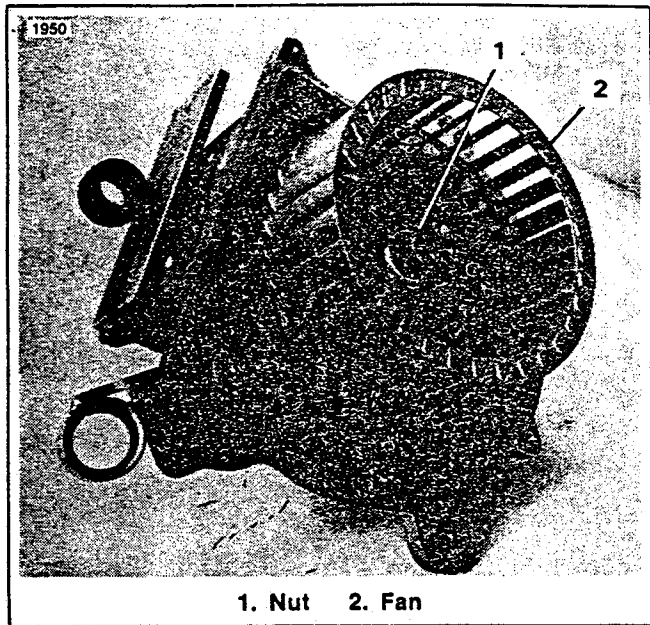

Figure 5-16. Removing Fan Nut
6. See Figure 5-16. Place the CONNECTING ROD HOLDING PLATE, Part No. 94403-80, under rod upper end and remove the fan nut (1) and fan (2).
- See Figure 5-16. Install fan (2) on the ignition point side of the crankcase. Using the CONNECTING ROD HOLDING PLATE, Part No. 94403-80 install the fan nut (2). Tighten the fan nut to 50-70 ft-lbs torque.